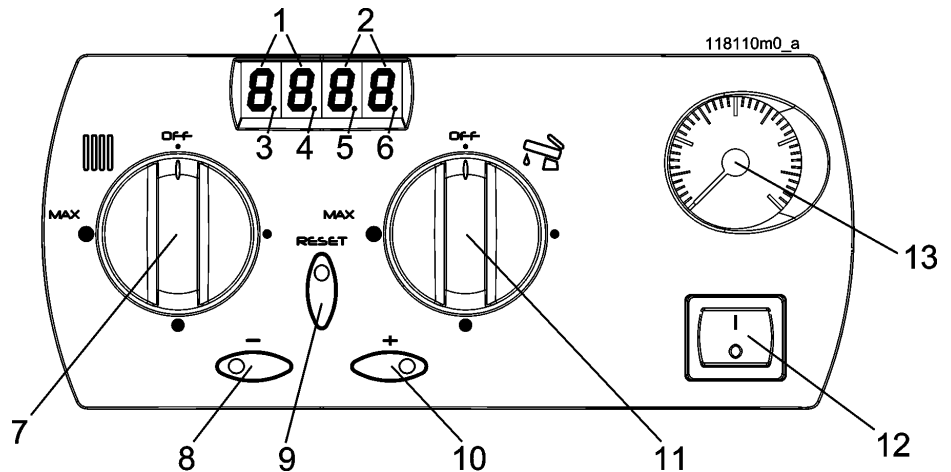

Figure 40 - Instrument panel
If the pressure inside the heating circuit falls below 7psi (0,5 bar), the appliance switches off and the display "1" as per figure 40, shows **FILL** to indicate that it is necessary to restore the correct pressure. Proceed as follows:
2. check the pressure on the pressure gauge "13" of figure 40, it must reach a pressure of 20 psi (1,5 bar) and the indication **FILL** must disappear;
The boiler is pre-set with standard parameters. However, it is possible to make a number of changes or consult the parameters by means of using the "Users' Menu" (see section 12.16). During functioning display "1" of figure "40" displays the status of the boiler and display "2" (see figure 40) shows the value of the parameter. The various operating statuses are shown in section 12.18.
Within the "Users' Menu" (see section 12.16) it is possible to check the last lock-out or error which have occurred. In addition to the operating modes, the instrument panel provides important information on the current functioning of the boiler, via the indicators "3", "4", "5" and "6" of figure 40. In particular:
During normal operations, the parameters' display "1" and the values' display "2" (see figure 40) remain permanently on, if the "Energy Saving" mode has not been activated (See section 12.15).
6. turn knob "7" of figure 40 until it reaches the heating temperature desired. Turn knob "11" of figure 40 until it reaches the domestic water temperature desired.
To disable the heating functions for a prolonged period, leaving only the domestic hot water function, switch OFF the heating temperature, until the wording OFF appears, by turning knob "7" of figure 40 to the minimum.
In Winter mode, by means of the pump, the boiler sends the water to the system at the temperature set using knob "7" of figure 40.
Simultaneously, the pump which sends the water to the system is switched on and off by the room thermostat. This can be noted, because indicator "6" of figure 40 switches on and off in correspondence with the on and off of the pump.
The domestic hot water temperature is adjusted by turning knob "11" shown in figure 40. When the knob is turned, the display, item "1" in figure 40, shows a flashing **d** and the temperature being selected. The range within which the domestic hot water can be set is 104°F (40°C) to 140°F (60°C) or from 104°F (40°C) to 158°F (70°C) when an indirect storage tank is used.
The boiler provides hot water to the heating system at the temperature set by adjusting knob "7" as shown in figure 40. The room thermostat turns the boiler's circulator pump on in order to satisfy the heat demand of the rooms controlled by the thermostat. To maximize the boilers' performance, temperature knob "7" should be set at a value that is just sufficient to maintain the desired temperature of the rooms. As the weather gets colder, progressively increase the water temperature by adjusting knob "33". When the weather gets milder turn the water temperature down. This extremely simple method is suitable for the following types of systems:
D - knob "37" in figure 40 can be used to make the small line shifts, "b", shown in figures 41 and 42. These shifts will change the supply water temperature up to 18°F (10°C).
Once selected, reset adjustment is completely automatic and will switch off at the end of the heating season and switch back on at the beginning of the heating season. When the "Calculated temperature" is lower than the "Minimum heating temperature", parameter **0b**, the heating service switches off. When the "Calculated temperature" exceeds the "Minimum heating temperature", parameter **0b**, the heating service switches back on. If for some reason the heating service doesn't match the load, use knob "7" in figure 40, to raise or lower the calculated temperature and match the "Minimum heating temperature" on an advanced or delayed basis.
- b = parallel shift of the line (adjusted by the heating knob, item "7" of figure 40)